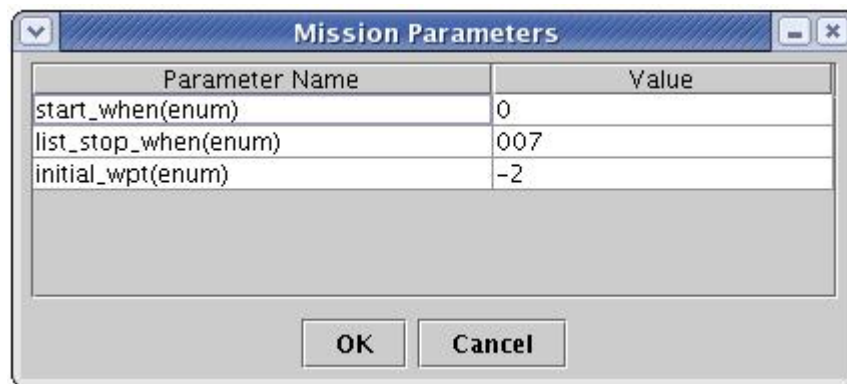

Figure 8-14. Mission Parameters Dialog.
1. Select Missions/Set 'goto' parameters. A mission parameters dialog will then appear (similar to that shown in Figure 8-14), enabling the user to change parameter values.